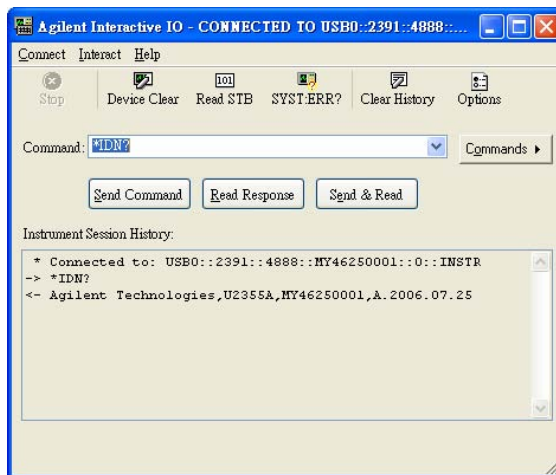

Figure 2-8
- 5 Agilent Interactive IO interface will appear. Click the **Send & Read** to send the *IDN? default command. The instrument's response should appear in the Instrument Session History section as shown in Figure 2-8.